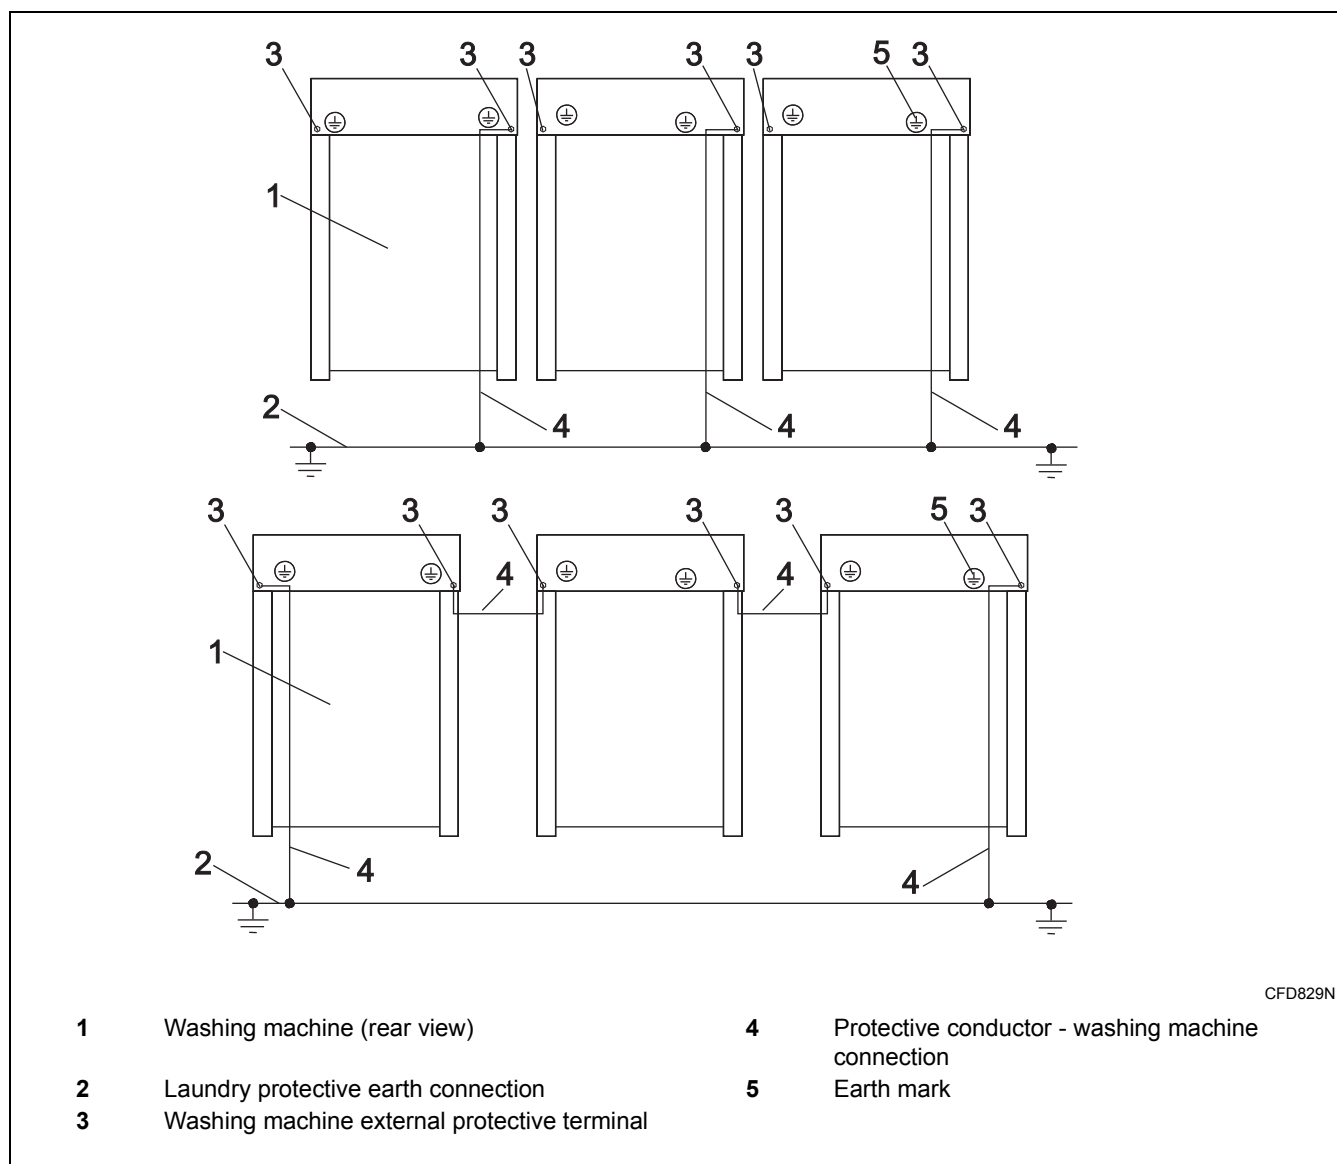

Figure 8
The external protective terminal for this purpose is located on the rear panel of the machine frame (*Figure 8*, pos. 3). The minimum protection conductor's cross section depends on the supply cable cross section and can be found in *Table 6*. However, for the protection purposes with the supply cable section of min. 4 mm², we recommend to select a larger conductor section, i.e. 6 mm².